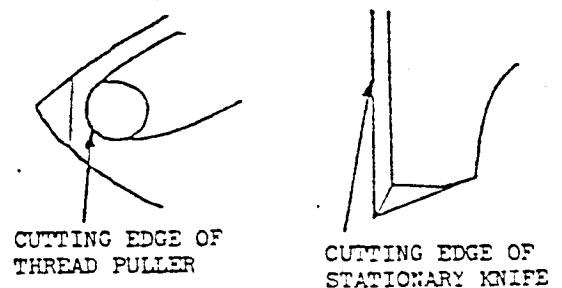

Fig. 10
8. The bobbin and needle threads are severed when the cutting edge of the thread puller closes in against the cutting edge of the stationary knife. (Figs. 10 and 11)